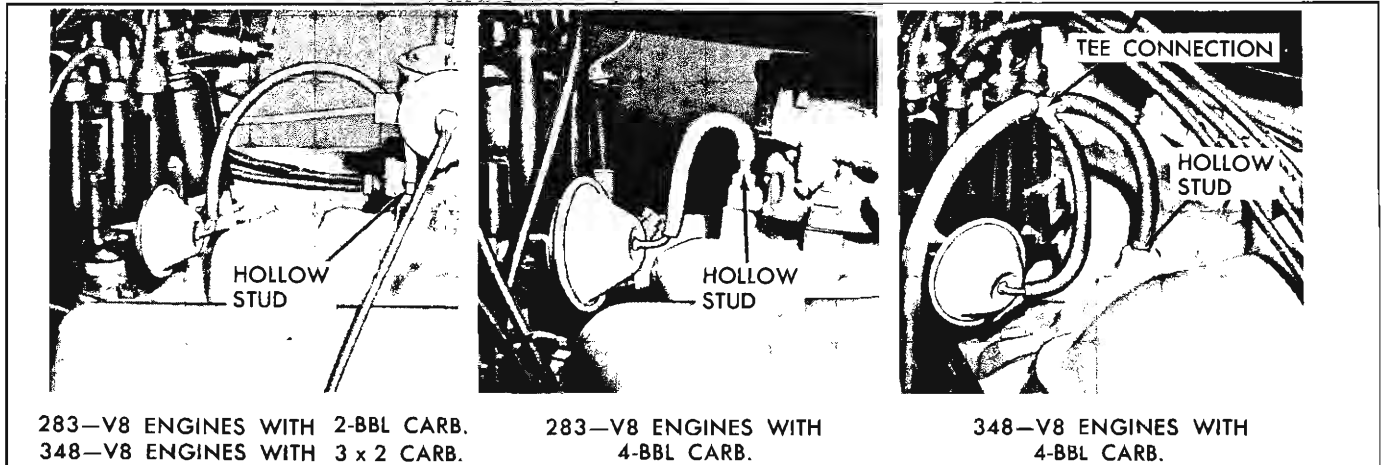

Fig. 29—Spark Vacuum Hose and Hollow Stud Locations
- b. Disconnect spark advance vacuum hose from hollow stud or from vacuum advance unit. On 283 V-8 engines with a two-barrel carburetor (fig. 29) the hollow stud is located at the right rear side, and with a four-barrel carburetor the hollow stud is located (fig. 29) on the left rear side.
The 348 V-8 engine hollow stud for vacuum spark hose connection (fig. 29) is located directly to the rear and right side of the intake manifold, when equipped with a four-barrel carburetor. When equipped with three two-barrel carburetors, the vacuum spark hose is connected to the right rear side hollow stud of the rear carburetor.